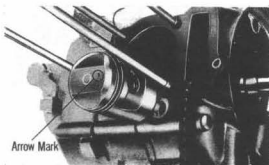

Fig. 35
- When assembling the piston to the connecting rod, make sure that the arrow mark on the piston head is pointing down (Fig. 35)